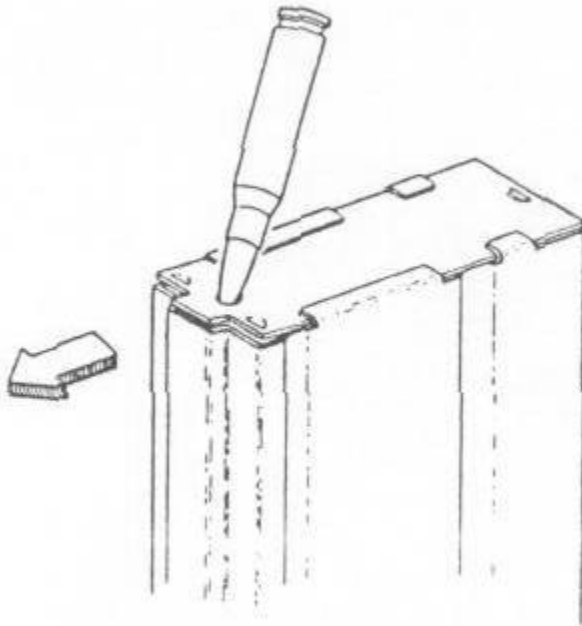

FIGURE 28
- a. With a bullet tip, raise the rear of the magazine base plate so that the two detents will clear the back edge of the magazine body. (See Figure 28)